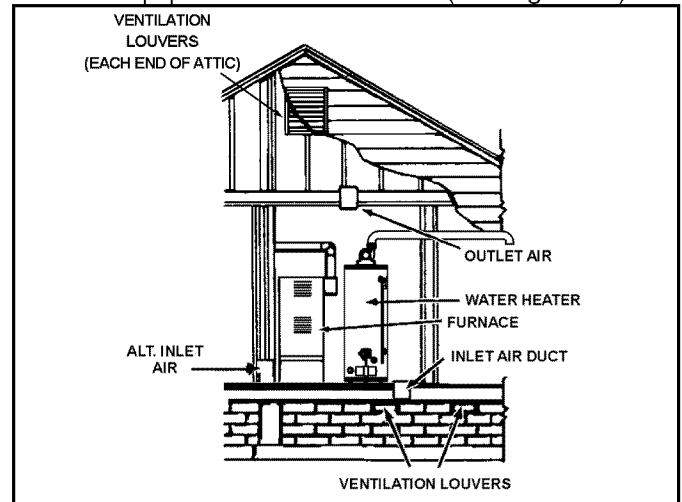
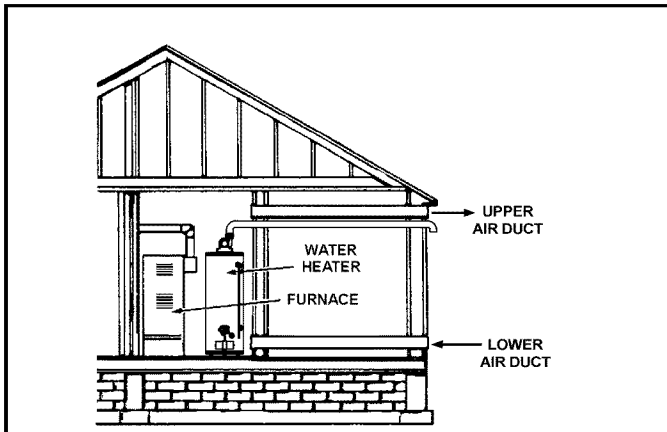

Figure 17.
Figure 19.
B. ALL AIR FROM OUTDOORS: (See Figure 17 thru Figure 19)
1. When directly communicating with the outdoors, each opening shall have a minimum free area of 1 square inch per 4,000 Btu/hr of total input rating of all equipment in the enclosure (see Figure 17).
3. When communicating with the outdoors through horizontal ducts, each opening shall have a minimum free area of 1 square inch per 2,000 Btu/hr of total input rating of all equipment in the enclosure (see Figure 19).
- When ducts are used, they shall be of the same cross-sectional area as the free area of the openings to which they connect. The minimum short side dimension of rectangular air ducts shall not be less than 3" (see Figure 19).